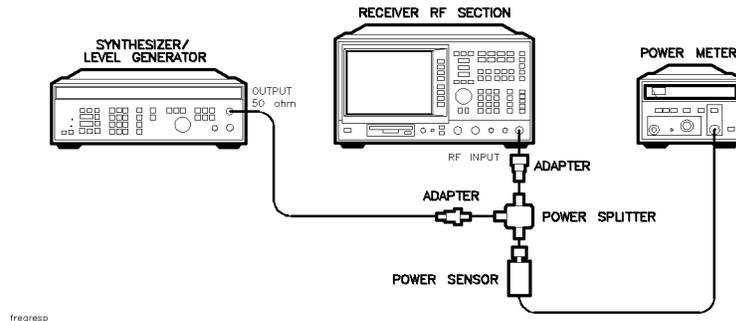

Figure 2-16. Frequency Response Test Setup (<50 MHz)
27. Connect the equipment as shown in Figure 2-16, with the power sensor connected to power splitter.